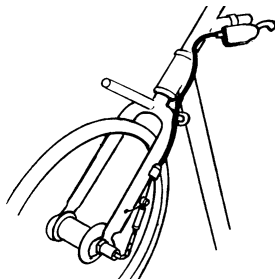

FIGURE 1 - LI'L EXCELERATOR THREE (3) SPEED SHIFTER CABLE INSTALLATION
LI'L EXCELERATOR - THREE (3) SPEED SHIFTER CABLE INSTALLATION (FIGURE 1)